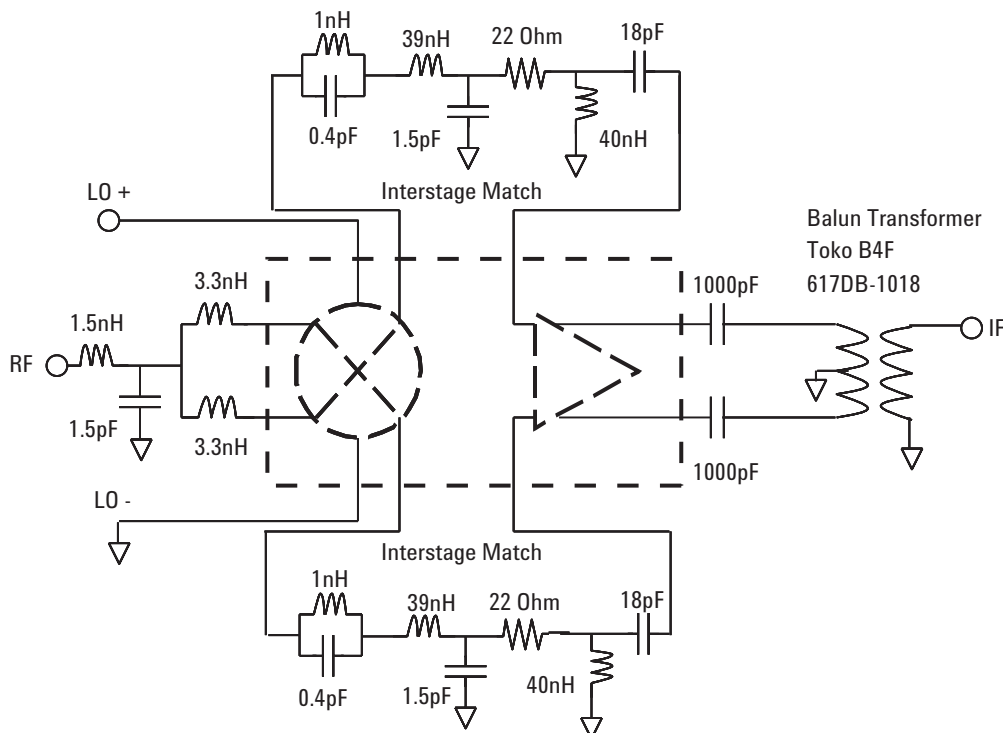

Figure 4. IAM-93516 demoboard schematic optimally tuned at  $F_{\text{RF}} = 1.91\text{GHz}$  and  $F_{\text{LO}} = 1.7\text{GHz}$
- 9. Results shown are based on Figure 4, which is optimally tuned for optimum conversion loss, IIP3, isolation and noise figure.